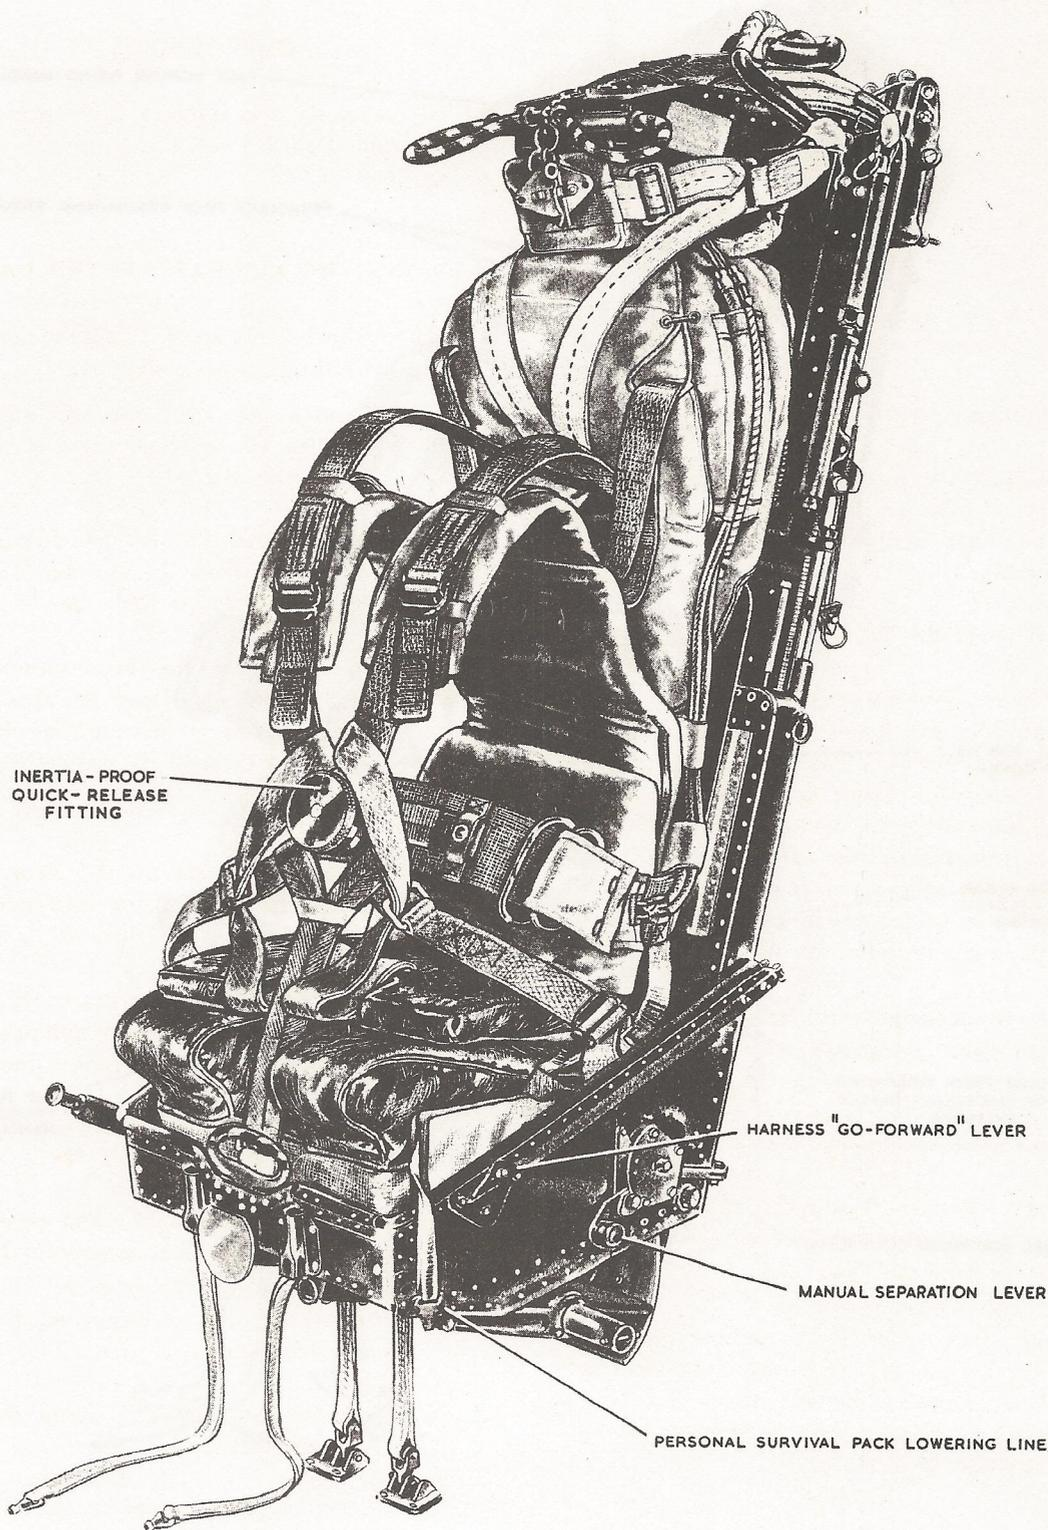

Fig. 1. The seat equipped (1)
14. The following procedure is to be used when equipping the seat; refer to fig. 1 to 4 for detail as necessary :-